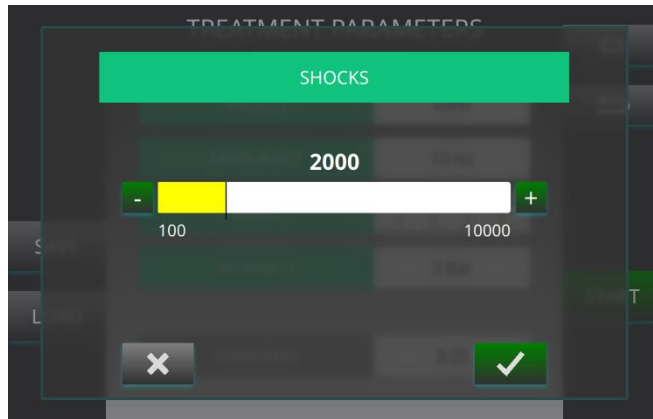

fig 4
2. For the SHOCKS parameter (number), increase or decrease the value using the + or - buttons or by scrolling the cursor to the right or left until the desired value is reached (figure 4). It is possible to vary the URTI parameter between 10 and 10000.